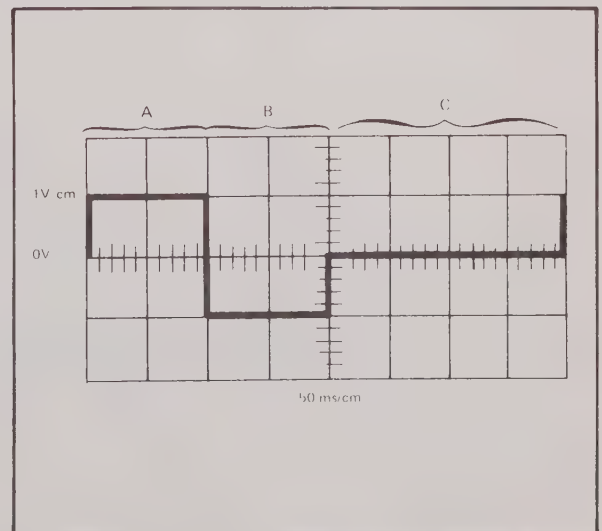

Figure 4-3. TP1 WAVE FORM
- d. Connect the scope input to TP1 and return to the INPUT LO terminal. The scope display should be as shown in Figure 4-3.